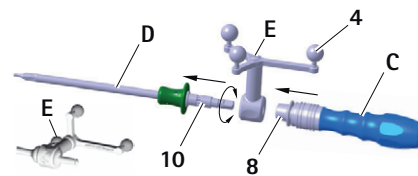

Fig. 8 Mounting the reference star unit ("calibration with ICM 4") and S⁴C handle (FW067R or FW165R) onto the S⁴C screwdriver
- ▶ Release locking sleeve **8**, see Fig. 8.